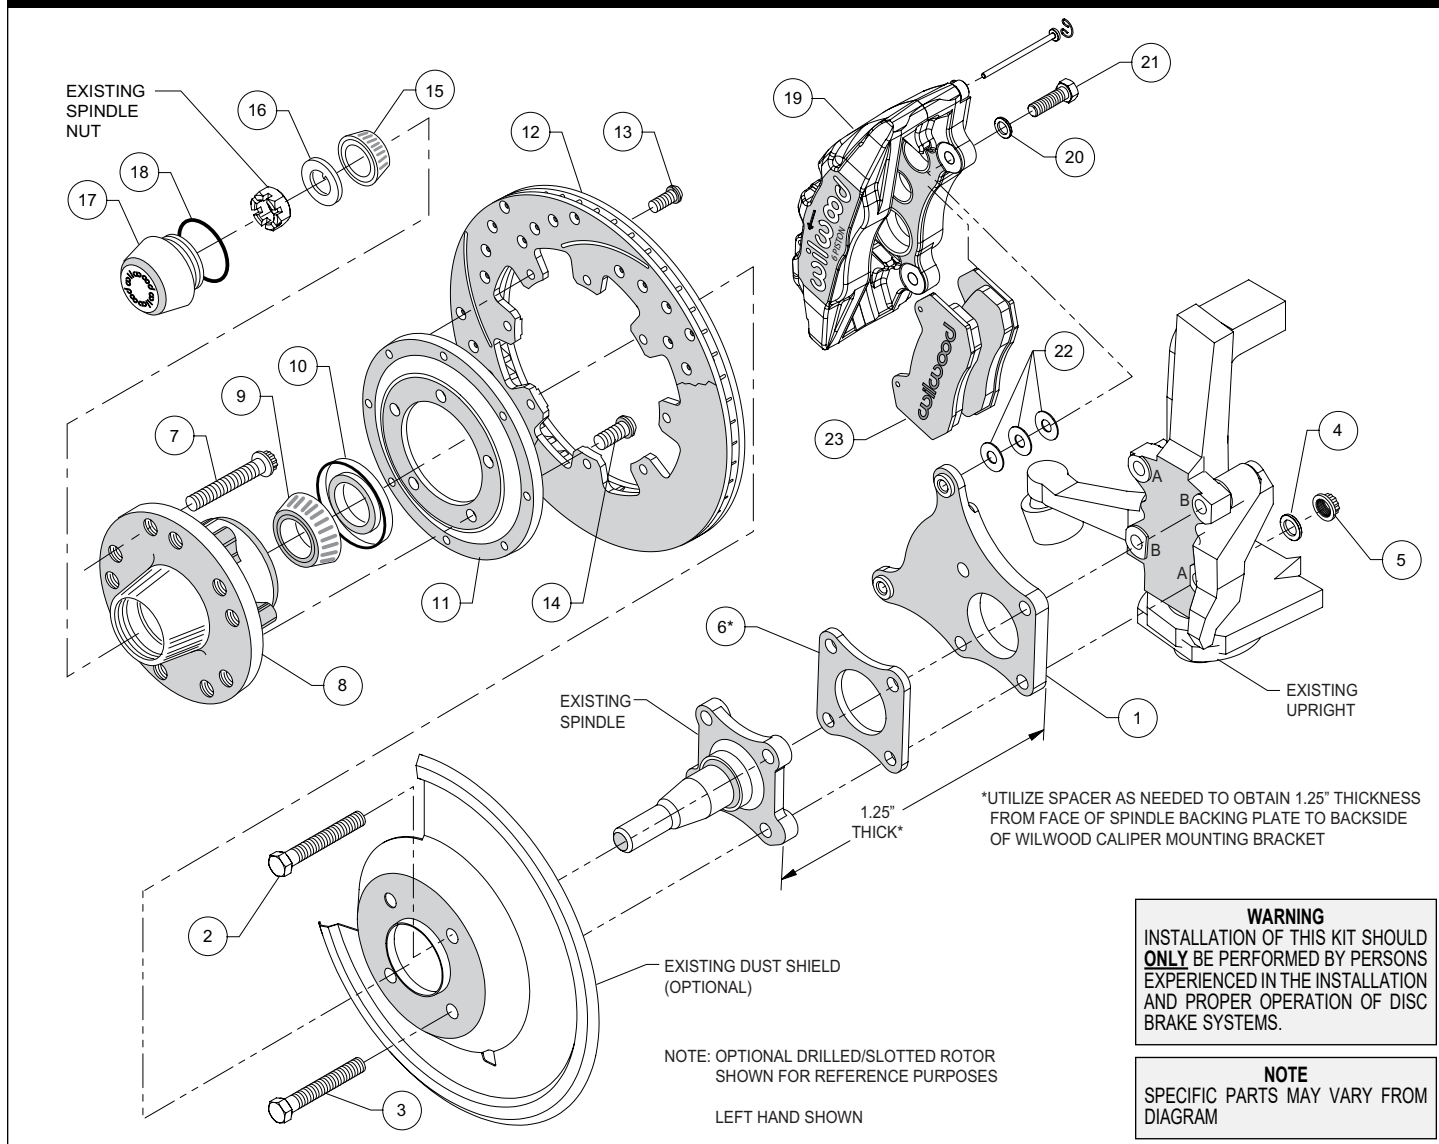
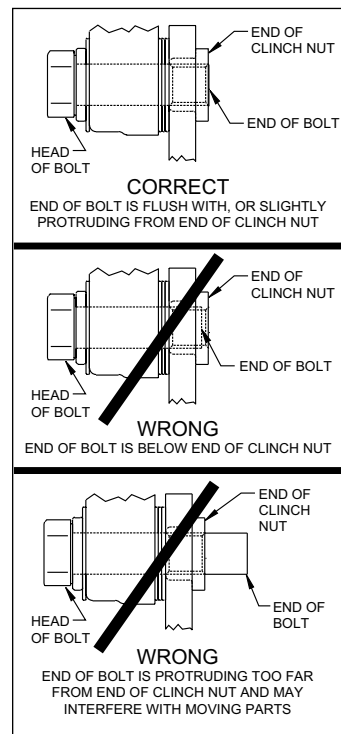

Figure 1. Typical Installation Configuration
Figure 3. Clinch Nut Engagement Diagram
NOTE: Numbers in parenthesis refer to the parts list and Figure 1 on the preceding pages.
CAUTION: All mounting bolts must fully engage clinch nuts. Be sure to check that all bolts are either flush or protruding through flanged side of clinch nut after shimming, Figure 3.
- Align caliper mounting bracket (1) with the corresponding holes, between the upright and the spindle. Attach using bolts (2 and 3), washers (4), and locknuts (5) as shown in Figure 1 and Photo 1. Bolt (2) goes into holes on the upright designed with a "B" and bolt (3) goes into the "A" marked holes, Figure 1. Measure the thickness of the spindle and mounting bracket, Figure 1. If approximately 1.00", place spacer (6) between the spindle and mounting bracket to achieve the correct thickness. Temporarily tighten the mounting bolts. Ensure that the flanged heads of the clinch nuts in the bracket are facing outboard, Photo 1. **NOTE:** The bracket must fit squarely against the mounting bosses on the upright. Inspect for interference from casting irregularities, machining ridges, burrs, etc. Remove bolts one at a time, apply red *Loctite*® 271 to threads and torque to 47 ft-lbs.
- Install wheel studs (7) into the hub (8), Photo 2. Torque to 77 ft-lb. **NOTE:** There are two five lug patterns in the hub (5 x 4.50 and 5 x 4.75). Ensure the correct hub stud pattern is being used to fit the wheel application.
- Pack the large inner bearing cone (9) with high temperature disc brake bearing grease (available from your local auto parts store) and install into the backside of the hub (8), Photo 3.
- Install the grease seal (10) by pressing into the backside of the hub (8), flush with the end of the hub, Photo 3.
- Orient the rotor (12) and the rotor adapter (11) as shown in Figure 1 and Photo 4. Attach the rotor to the adapter using bolts (13). Using an alternating sequence, apply red *Loctite*® 271 to the threads, and torque to 25 ft-lb.
- Mount the adapter/rotor assembly (11/12) to the hub (8) using bolts (14), as shown in Figure 1 and Photo 5. Using an alternating sequence, apply red *Loctite*® 271 to the threads, and torque to 45 ft-lb.
- Pack the small outer bearing cone (15) with high temperature disc brake bearing grease and install into hub (8). Slide the hub/rotor assembly onto the spindle. Secure using spindle washer (16) and OEM spindle nut, Photo 6. Adjust bearings per OEM specifications. Install saved OEM nut lock (if any) and a new cotter pin (not supplied).
- Screw dust cap (17) into hub (8), Photo 7. Friction created by the o-ring (18) on the dust cap keeps it from unscrewing. **NOTE:** *The O.D. of the existing OEM spindle washer may be larger than the I.D. of the dust cap not allowing it to seat against the hub face. Therefore, use the spindle washer (16) supplied with the kit instead of the OEM washer.*
- NOTE:** *Please reference the caution statement at the beginning of the assembly instructions. This kit contains distinct right and left hand calipers that must be mounted in a specific direction, as described below.* Mount the caliper (19) onto the caliper mounting bracket (1) using bolts (21) and washers (20), as shown in Figure 1. Initially place three .035" thick shims (22) on each bolt between the caliper and the bracket, Photo 8. Ensure that the caliper is mounted so the largest pistons are at the rotor exit end of the caliper, in relation to the direction of rotor rotation. Temporarily tighten the mounting bolts and view the rotor (12) through the top opening of the caliper. The rotor should be centered in the caliper, Photo 9. If not, adjust by adding or subtracting shims between the bracket and the caliper. Always use the same amount of shims on each of the two mounting bolts. **NOTE:** *The end of each bolt must be flush with or slightly protruding from the head of the clinch nut, as shown in Figure 3.* If necessary place spare shims between washer (20) and caliper mounting ear to achieve the proper clinch nut engagement. Once the caliper alignment and clinch nut engagement are correct, remove the caliper bolts and caliper.
- Remove the two pad retaining pins from the caliper (19) by carefully popping out the pin retaining clips and sliding out the pins. Insert the brake pads (23) into the caliper from the bottom, Figure 1 and Photo 10, with the friction material facing the rotor. Secure the brake pads in place with the pad retaining pins and clips, Photo 11. Reinstall the caliper onto the caliper mounting bracket. Apply red *Loctite*® 271 to bolt threads (11), and torque to 40 ft-lb.